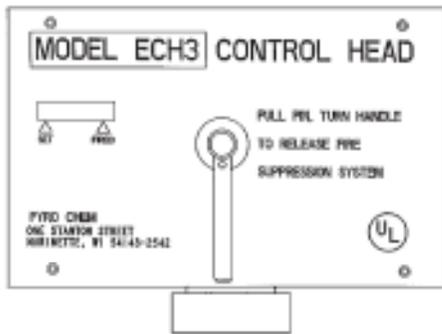

**Figure 2-5. Mechanical Control Head.**
The Model MCH3 mechanical control head is a fully mechanical control head which can be connected to the PCI-15/25s/35/50s/70 cylinder valve. This control head will support a fusible link detection system, a remote mechanical pull station (Model RPS-M), and a mechanical or electric gas shut-off valve. A micro switch (Model MS-SPDT, MS-DPDT, MS-3PDT, or MS-4PDT) can be ordered separately and field installed. It is equipped with a local manual control handle that allows for mechanical system actuation. Operation of the local manual control requires removing the pull pin and rotating the handle clockwise. The Model MCH3 control head can actuate a maximum of five (5) cylinders. See **Figure 2-5**.